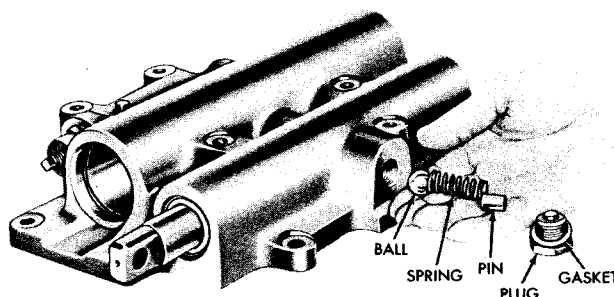

Fig XIV-11. Removing or installing plug, pin, annular gasket, spring, and ball from selector valve body assembly
(7) Remove the plug, annular gasket, pin, spring, and ball from the body (fig XIV-11).
(6) Install the ball, spring, pin, plug, and annular gasket in the body (fig XIV-11).